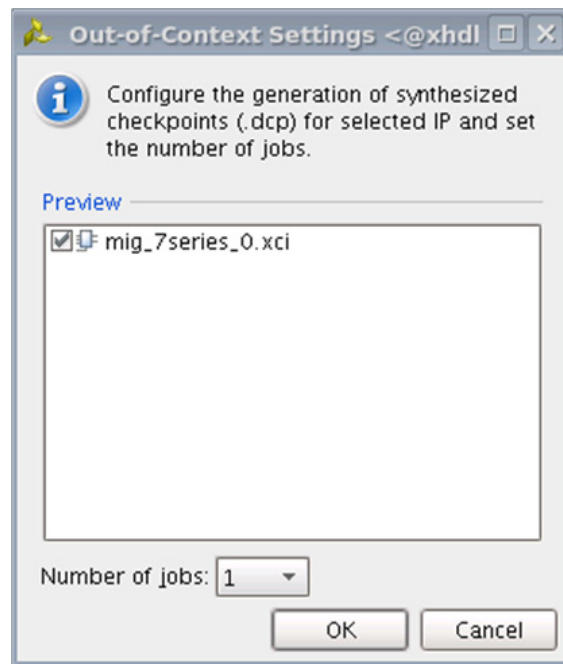

Figure 4-28: **Out-of-Context Settings Window**
2. Click **Out-of-Context Settings** to configure generation of synthesized checkpoints. To enable the Out-of-Context flow, enable the check box. To disable the Out-of-Context flow, disable the check box. The default option is "enable" as shown in Figure 4-28.